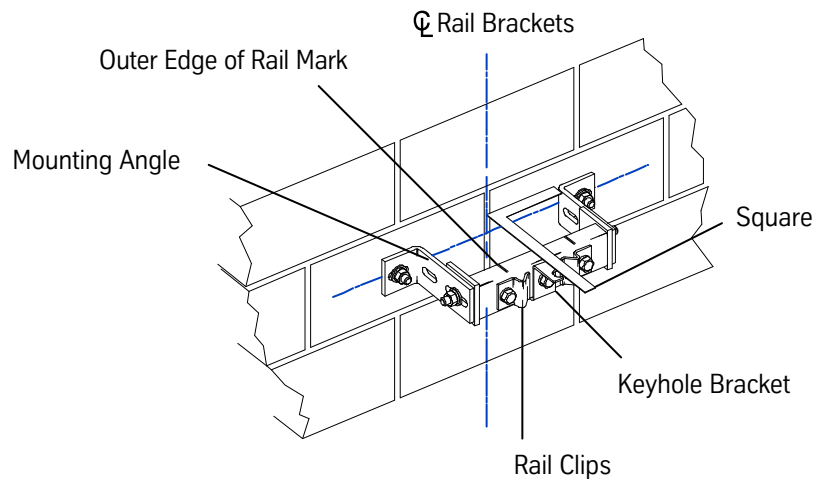

Figure 24 - Rail Bracket Location
- c. Drill holes for anchor bolts, or weld the bracket to the beam. See Figure 24.
- f. Align and plumb the bracket to the mounting angles (per alignment marks), and lock the bracket to the mounting angles. See Figure 24.